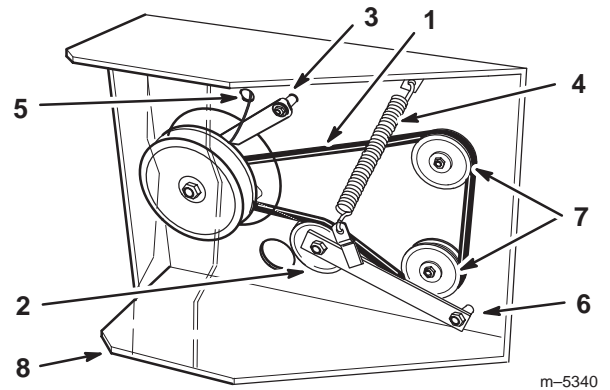

Figure 56
4. Remove clutch retainer from the engine deck (Fig. 56).
5. Unhook tension spring from side of frame (Fig. 56).
8. Torque pivot bolt to 35-40 ft. lb. (47-54 N.m). Install tension spring between idler arm and frame bracket (Fig. 56).
9. Install clutch retainer to the engine deck (Fig. 56).